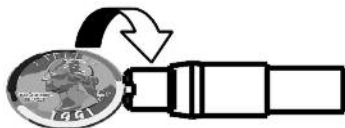

Figure 2-4
4. Once the Insert Retainer Screw is seated against the bore rod use a cartridge case, coin, screwdriver or knife blade to lightly tighten the Insert Retainer Screw. See Figure 2-4 below. **DANGER: Failure to properly install the Insert Retainer Screw on the bore rod may result in the insert coming loose and lodging inside the barrel of the weapon.**